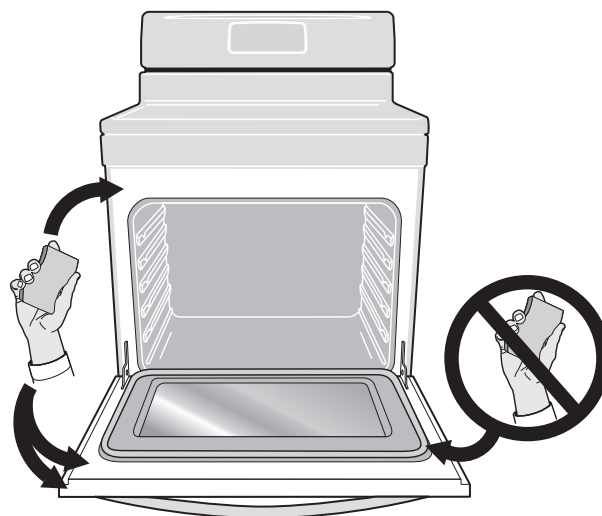

Fig. 14 Areas to clean and to avoid
- Do not use oven cleaners or oven protective coatings in or around any part of the oven interior. Clean any soil from the oven frame, the door liner outside the oven door gasket and the small area at the front center of the oven bottom (Fig. 14, on page 18). These areas heat sufficiently to burn soil on. Clean using soap and water prior to starting Self Clean.